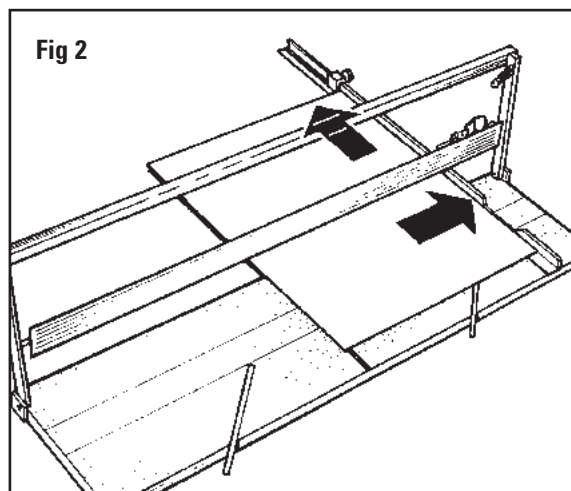

Fig 2
The work surface must be flat and smooth. Any dips or warps in a table top can cause the base board of the mat cutter to also warp. Never lean the mat cutter against a wall when not in use. Always store flat. The procedure detailed in the following instructions refer to the right and left side and the top and bottom of the mat cutter as shown. **Fig 2**
2. Lift the cutting bar and slide the mat board along the squaring arm until it makes contact with the squaring arm stop. **Fig 2**
4. Lower the handle bar. With a pencil draw a line on the back of the mat board using the left side of the cutting bar as a guide. Do this for the remaining three sides of the mat. **Fig 2**
4. Attach and slide the bottom production stop up to the increment on the scale of the border size you wish to cut. **Fig 2**
If curves in your bevel cut become a problem, it may warrant an adjustment to the blade tip. At the end of the bevel blade holder nearest the tip of the blade you will find a small blade tip adjustment screw. When adjusted this screw will put more pressure against the blade tip causing it to ride closer to the cutting bar. **(Fig 2)**